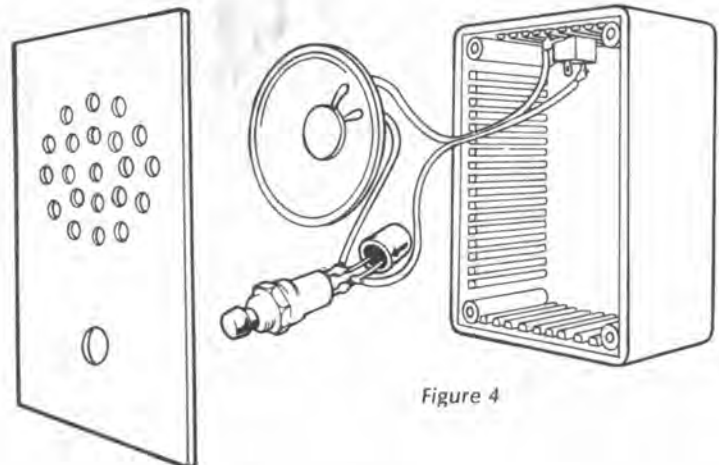

Figure 4
- (1) Referring to figure 4, which shows the slave unit, solder the electrolytic capacitor, C8, across the push button switch, PB1. At this stage, it doesn't matter which way around you solder the capacitor.
- (2) Solder a short length of hook-up wire (10cm) from the positive side of the capacitor to the speaker.
- (3) You must decide now whether or not you are going to fit a socket to the slave to allow for easy disconnection. If you do, connect the socket as shown below.